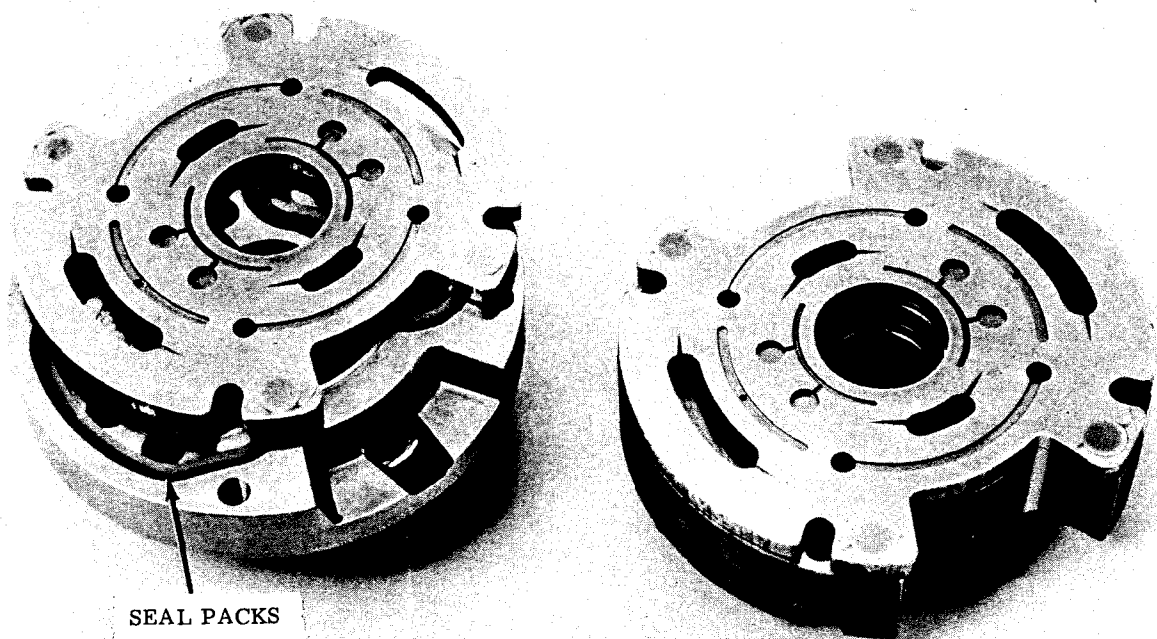

Figure 19. Assembly of flex side plates over seal packs
a. Place the inlet and outlet support plates on a flat surface as shown in Figure 19. Install seal packs into cavities with seal retainer surface up. ("O" rings facing downward into the cavities.)